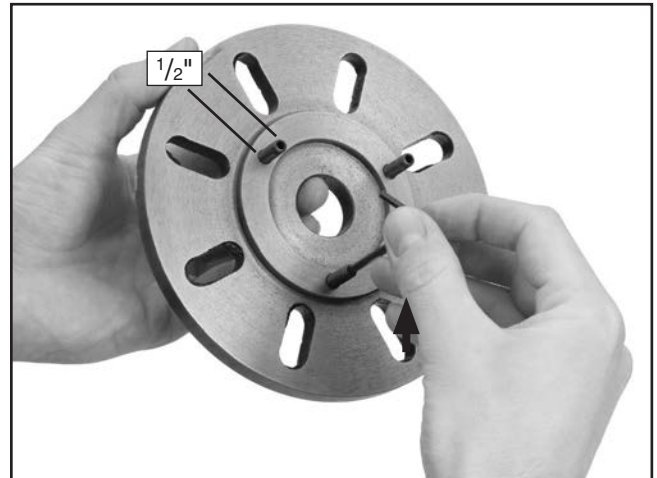

Figure 16. Installing studs.
2. Measure the stud protrusion, and make sure that the studs extend at least 1/2" from the chuck or faceplate (see **Figure 16**).